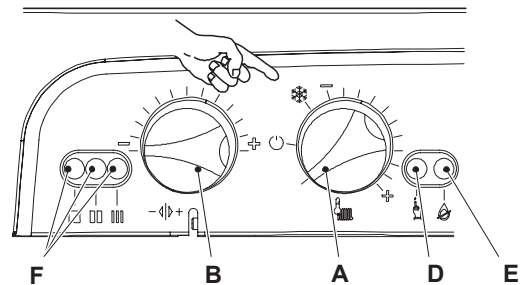

Figure 8.20
- 4 Turn the boiler ON positioning the function selector knob A as indicated in Figure 8.20 and ensure that the timer selector switch and room thermostat, if fitted, are set to "heat demand".